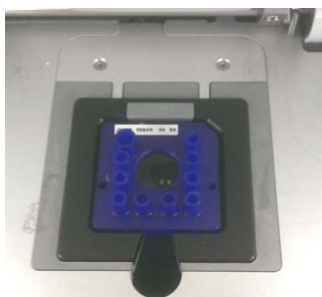

Figure 6. Chip in the LabChip GXII Touch
- 4 Insert the chip into the LabChip GXII Touch instrument (Figure 6) and close the chip door securely.